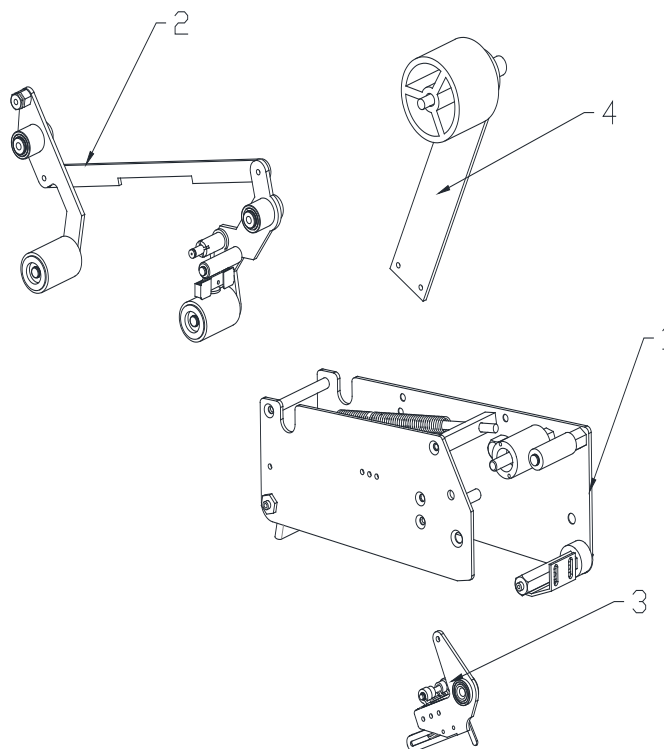

Figure 14
6.5 Tape sticker (see Figure 14):